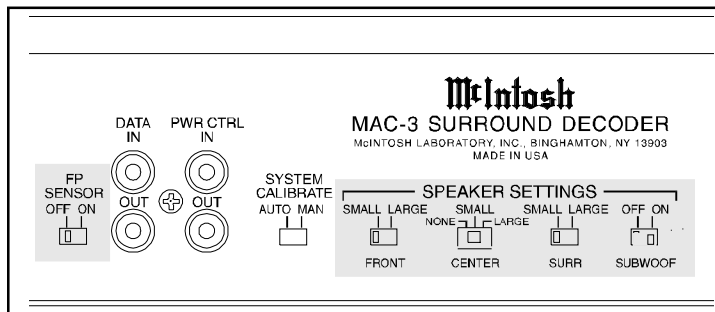

Figure 3
*NOTE: This prevents the MAC-3's built-in sensor from receiving the remote control commands that have been already received directly from the C39 or MX130, thus causing improper functioning. Refer to Figure 3.*